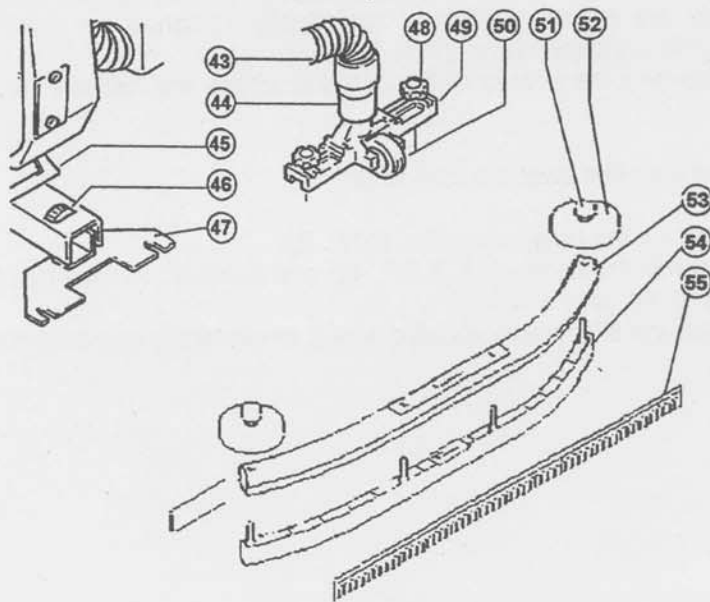

Fig. 4
- adjust the squeegee and the flow of detergent solution as required via the controls (fig. 4, N°. 45 and N°. 46; fig. 2, N°. 4);
Swapping the blades (for references see fig. 4):
Replacing the blades (for references see figure 4):
- clean the suction pipe (fig. 4, N° 43);
* There is an obstruction in the suction pipe (fig. 4, N°. 43)	* Unclog the pipe
* The F7 brush motor fuse has blown (only for battery-operated model)	* Replace the 60A fuse (fig. 4, N°. 31) above the brush motor